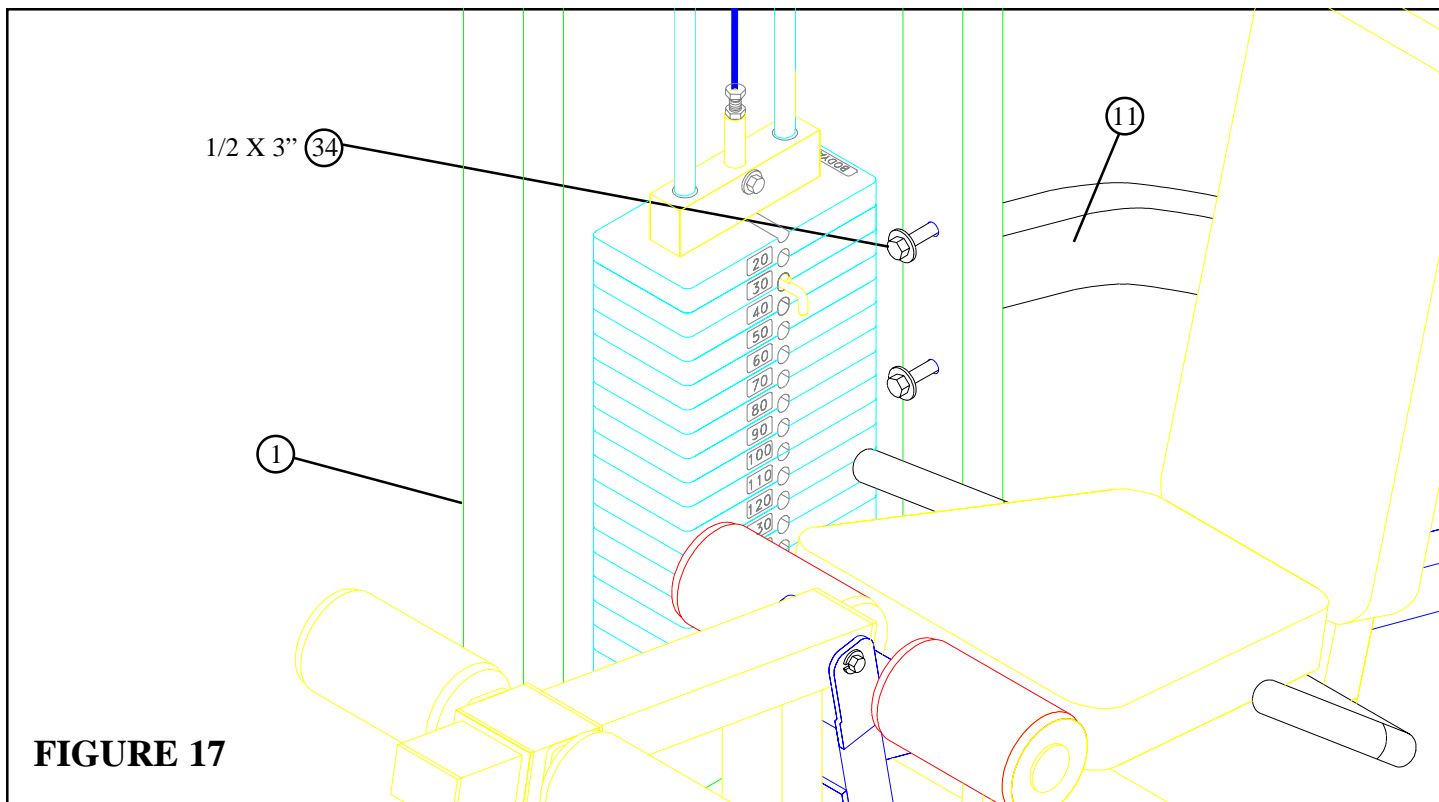

FIGURE 17
- Loosen the two 1/2 X 3" BOLTS (34) holding the UPPER CROSS SUPORT (11) to the TOWER (1) as shown in FIGURE 17.